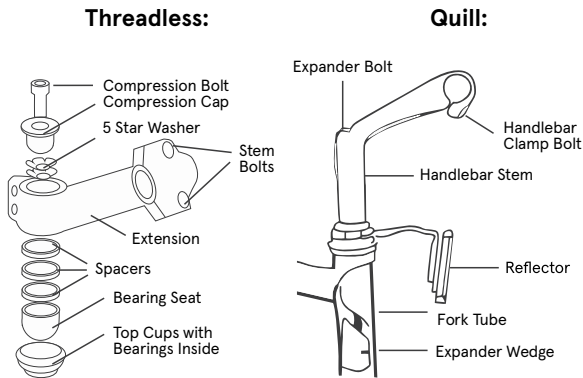

Fig. 12
Step 4: Handlebar & Handlebar Stem Assembly (Refer to Figs. 12 & 13)
Your e-bike may be fitted with an adjustable stem, a standard quill stem, or a threadless stem (Refer to Fig. 12). Regardless of stem type, always check that all the bolts are tight before riding. Respect the stem type and follow the instruction below: